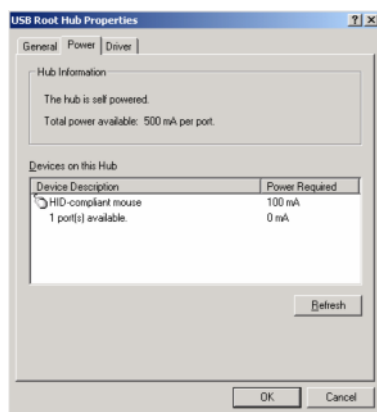

Fig. 1-1 Displaying the total available power of a USB port
- Select the **Power** tab (Fig. 1-1). If the hub is self-powered and the total power available is, as indicated by **Hub Information**, 500 mA per port, high-power devices can be connected.